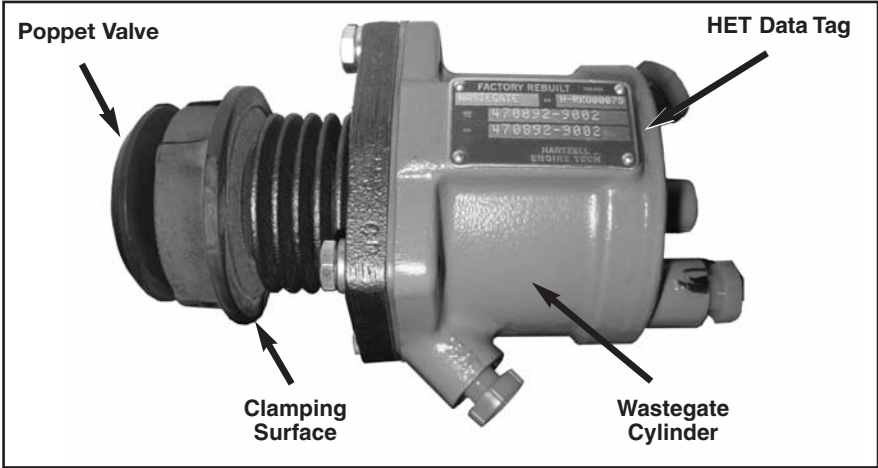

Figure 1 - Wastegate Poppet Valve Assembly
- (1) Determine the Turbocharger part number through documentation or by visual inspection of the Turbocharger data tag. The Turbocharger containing the affected Wastegate Poppet Valve assembly is HET P/N 409680-0001, 409680-9001, 409680-0011, 409680-9011, or CMI P/N's 640327-1 and 640327-11.
- (2) Determine the Wastegate Poppet Valve assembly serial number through documentation or by visual inspection of the Wastegate Poppet Valve assembly data tag.
- (a) The Wastegate Poppet Valve assembly is affected if listed in Table 1 or Table 2. Refer to Fig. 1.
- (3) If the Wastegate Poppet Valve assembly is not listed in either Table, but the documentation indicates a poppet valve HET P/N 477285-0002 has been replaced after November, 2012, continue to 3.B.